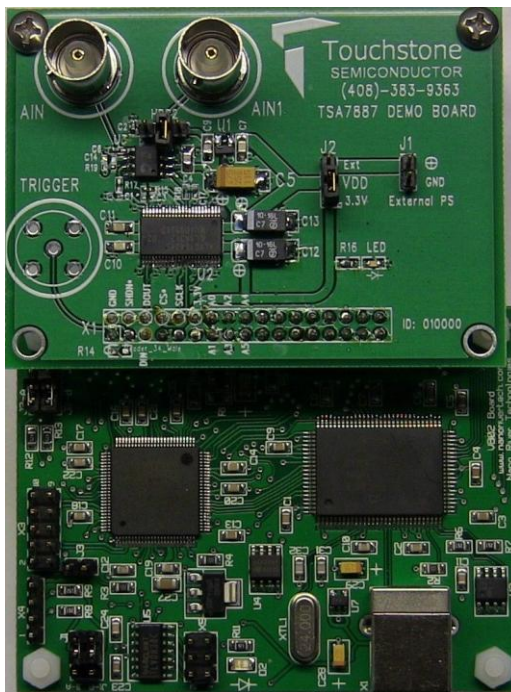
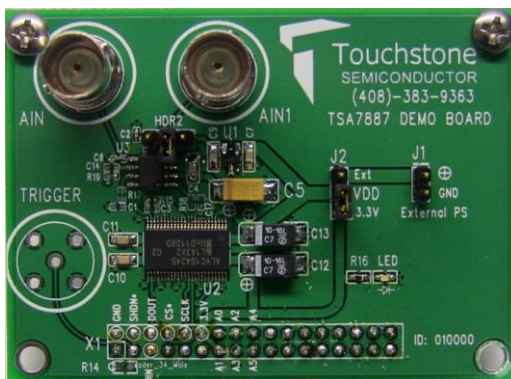
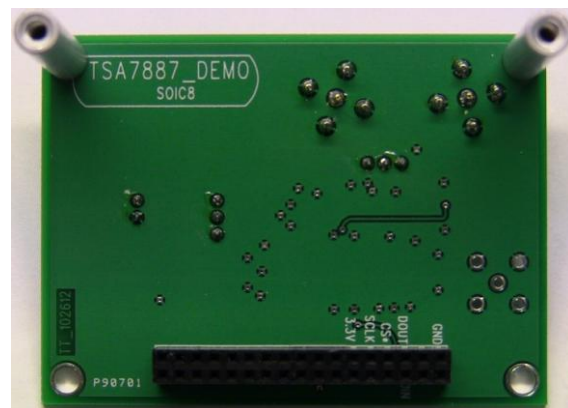
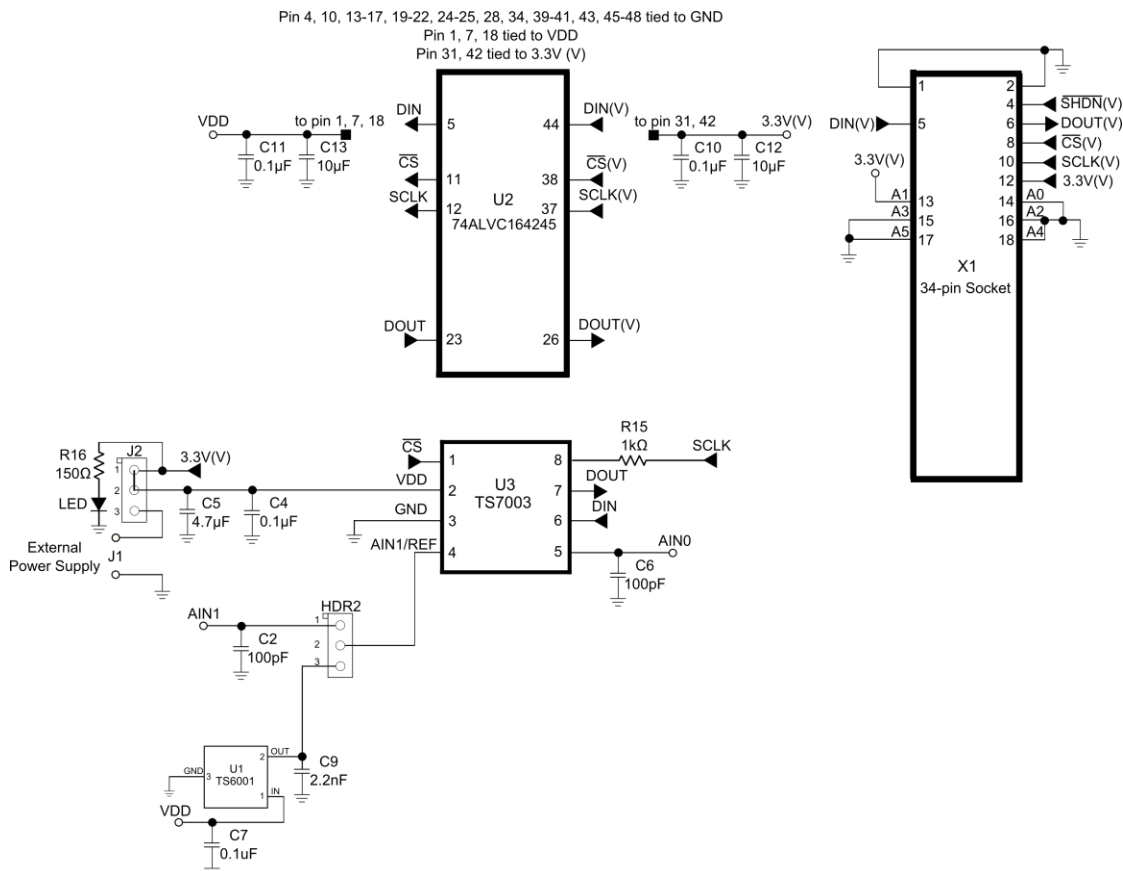

Figure 1. TSA7887 Evaluation Board with Viperboard
Figure 2. TSA7887 Evaluation Board (Top View)
Figure 3. TSA7887 Evaluation Board (Bottom View)
Figure 5. TSA7887 Evaluation Board Circuit
Figure 5 shows the TSA7887 demo board schematic, Figure 2 and Figure 3 show a picture of the top and bottom of the TSA7887 demo board, respectively. Figure 1 shows a picture of the TSA7887 demo board with the viperboard connected.
In order to evaluate the TSA7887, jumper J2 is to be set to position 2-3 and jumper HDR2 is to be left unconnected. The default configuration for J2 and HDR2 is 1-2 and unconnected, respectively. Refer to Figure 5 and Table 1. The default configuration on the board is for  $V_{DD} = +3.3V$ . For this evaluation, we will use an external +5V power supply and an external +5V reference voltage. The following steps are to be performed:
- 1) Set the voltage of the power supply between +2.7V and +5.25V and turn it off. Connect the positive terminal of the DC power supply to pin 12 labeled as “3.3V” on X1, and the ground terminal to pin 2 labeled as “GND”. Refer to Figure 5.
- 3) To measure the supply current of the TSA7887, place jumper J2 to position 2-3. Then, apply an external power supply to J1. An ammeter can now be connected in series with the power supply for a static supply current measurement of the TSA7887. The supply current should be less than 900 $\mu$ A. Please refer to Figure 5 and table 1.